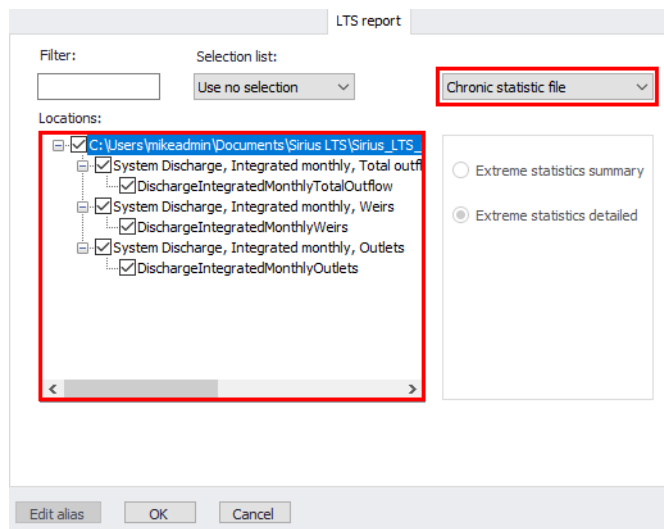

Figure 20.69 LTS chronological statistics report configuration
- Access the ‘LTS Report’ tab on the ‘Result Items’ dialog (Figure 20.69).
- Choose to generate a report with the ‘Chronological statistics file’ from the dropdown menu on the upper right side of the page (Figure 20.69).
- Select the items which shall be included in the report (Figure 20.69). Note that relevant items are offered on the Locations panel only if the appropriate LTS result file has been activated for the result document creation.